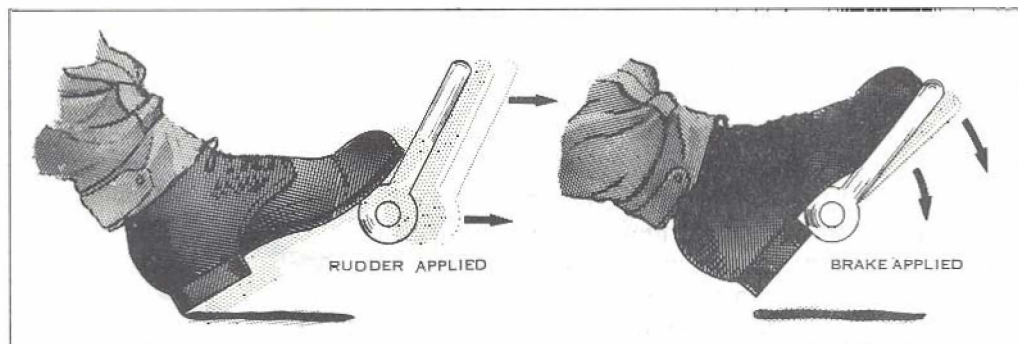

Figure 2: Applying Brake Pressure
(1) The tailwheel on the Harvard is constructed so that it may be locked or unlocked by movement of the control column. When the control column is back, the tailwheel is locked; when it is fully forward, the tailwheel is unlocked. Connecting links to the rudders allow 15 degrees of movement to either side of centre when the tailwheel is locked so that, when left rudder is applied, the aircraft turns to the left, and vice versa. If it is necessary to unlock the tailwheel to give a smaller turning radius, the rudders must be centralized before the control column is pushed forward. Once the tailwheel is unlocked, a combination of brake and power is used to turn the aircraft. The control column should then be held fully back so that, when the turn is completed and opposite brake is applied, the tailwheel will be re-locked, automatically, by centralizing the rudder pedals.
(2) The brakes work independently of each other when toe pressure is applied to the tops of the rudder pedals, as shown in Figure 2. Pressure on the left brake pedal actuates the left brake, and vice versa. To stop the aircraft, equal pressure must be applied to each brake.